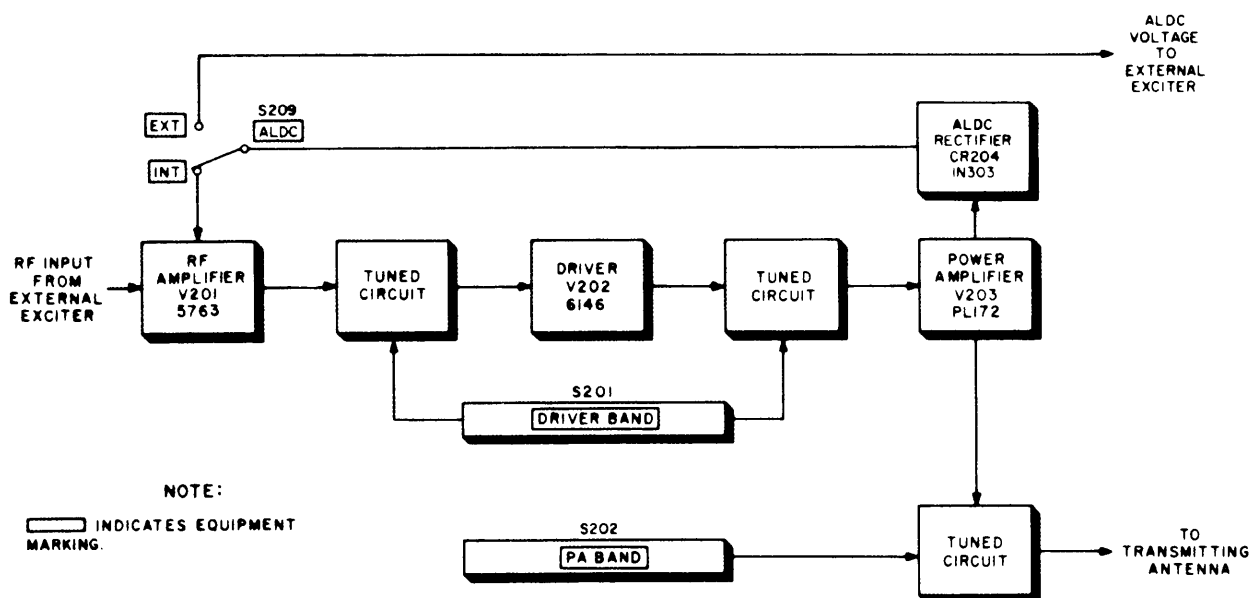

Figure 4-1. Functional Block Diagram, RFD-1A Amplifier
a. GENERAL (See figure 4-1). Figure 4-1 is a functional block diagram of RFD-1A. A 100-milliwatt, 2-32 mc signal from an external exciter is amplified up to a 1000-watt level by V201, V202 and V203. A DRIVER BAND switch inserts two tuned circuits of the proper frequency range in the input and output of V202. A PA BAND selector switch and tuned circuit serve to match RFD-1A output impedance with antenna impedance.
Power supply, metering, safety interlock and PA overload circuits are not depicted in figure 4-1 for simplicity. They are described, however, in following paragraphs.